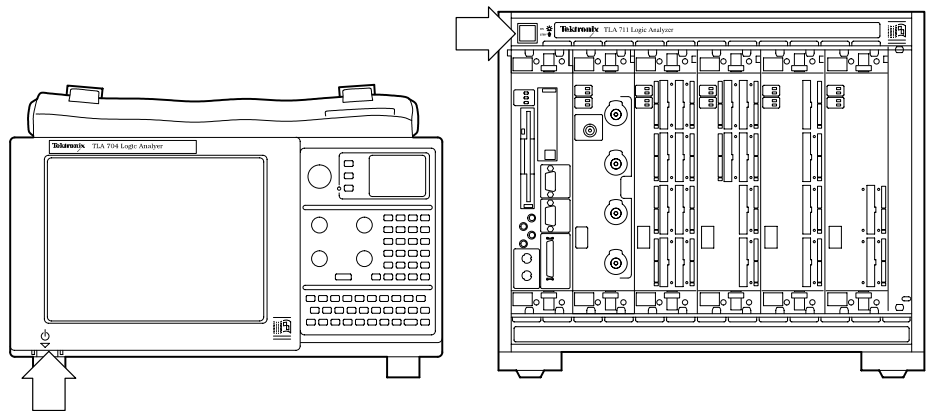

Figure 1–2: On/Standby switch locations
1. Press the On/Standby switch to power on the logic analyzer (see Figure 1–2 for the switch location).